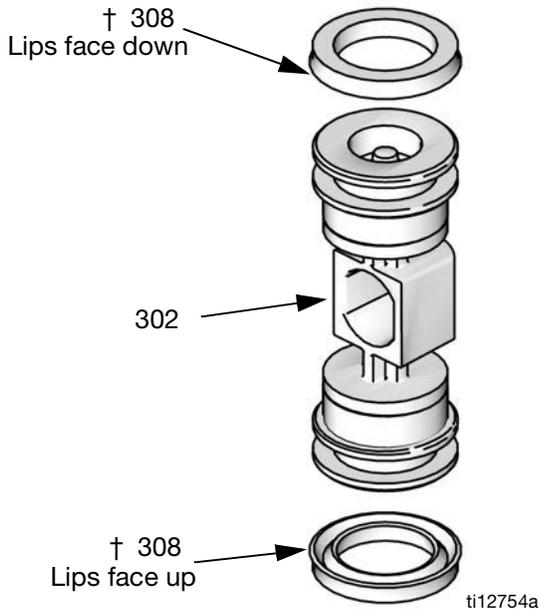

FIG. 14. Air Valve U-cup Installation
2. See FIG. 14. Lubricate the u-cups (308†◆) and install on the piston (302◆) with lips facing toward the center of the piston.